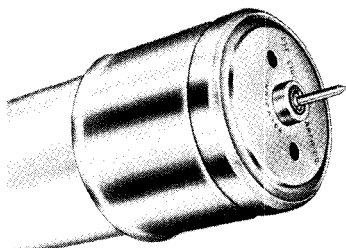

Fig. 33 4661-Q
1. When indicating pin is in the extended position, Fig. 33, the fuse **must** be replaced.